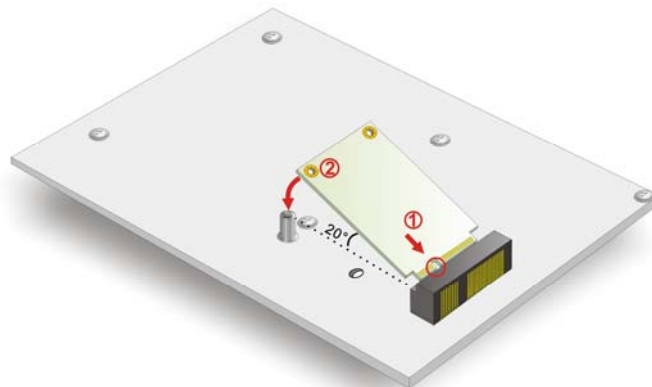

Figure 4-15: Insert the Full-size PCIe Mini Card into the Socket at an Angle
Step 3: Insert into the socket at an angle. Line up the notch on the card with the notch on the connector. Slide the PCIe Mini card into the socket at an angle of about 20° (Figure 4-15).